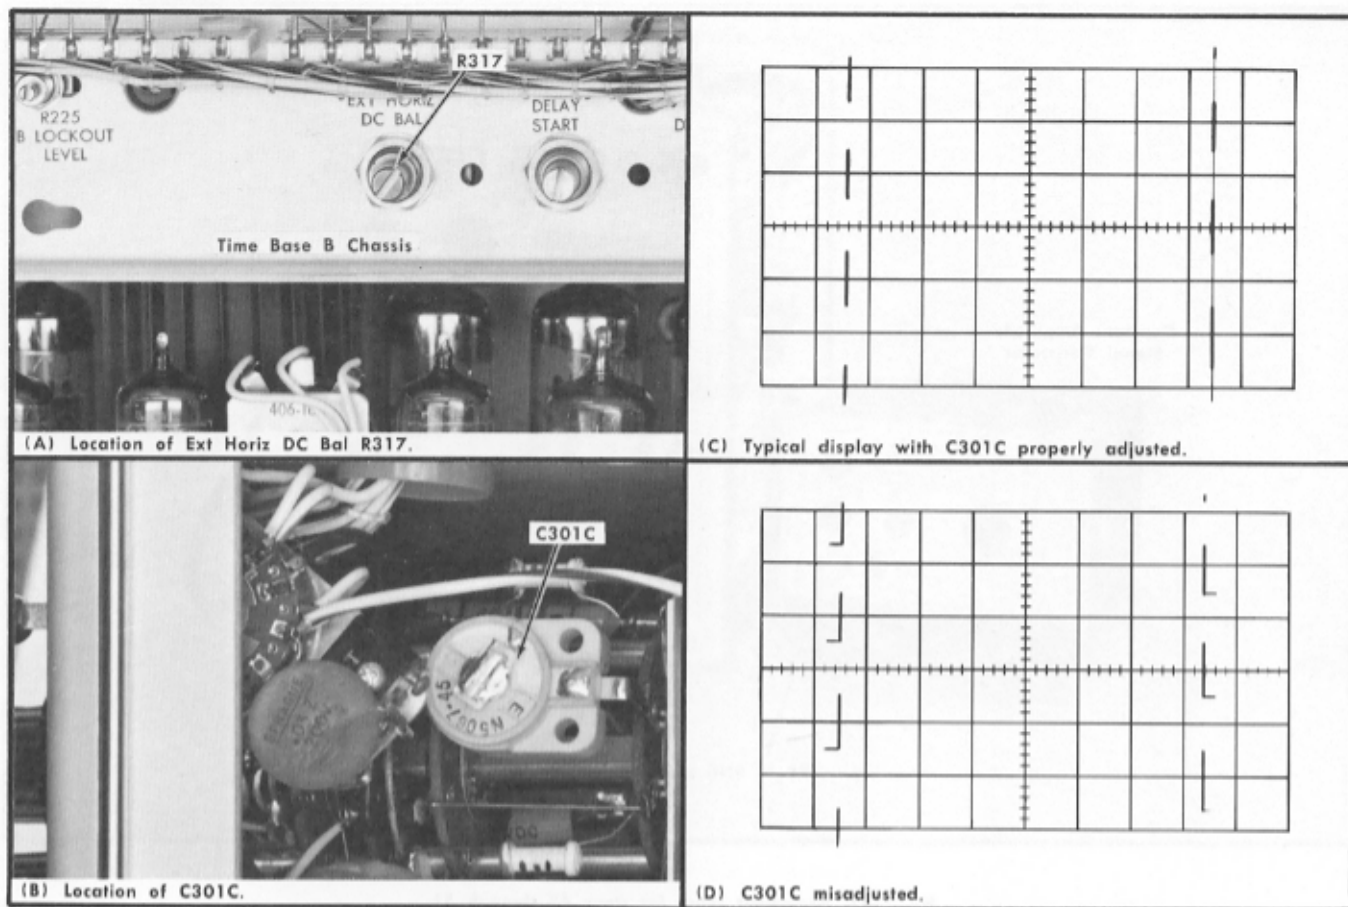

Fig. 6-42. External horizontal adjustments.
- f. Adjust the Ext Horiz DC Bal R317 (see Fig. 6-42) for no horizontal shift of the waveform baseline (to the left) while rotating the VARIABLE 1:10 control from a clockwise to fully counterclockwise position.
49. Adjust External Horizontal 10X Compensation ①